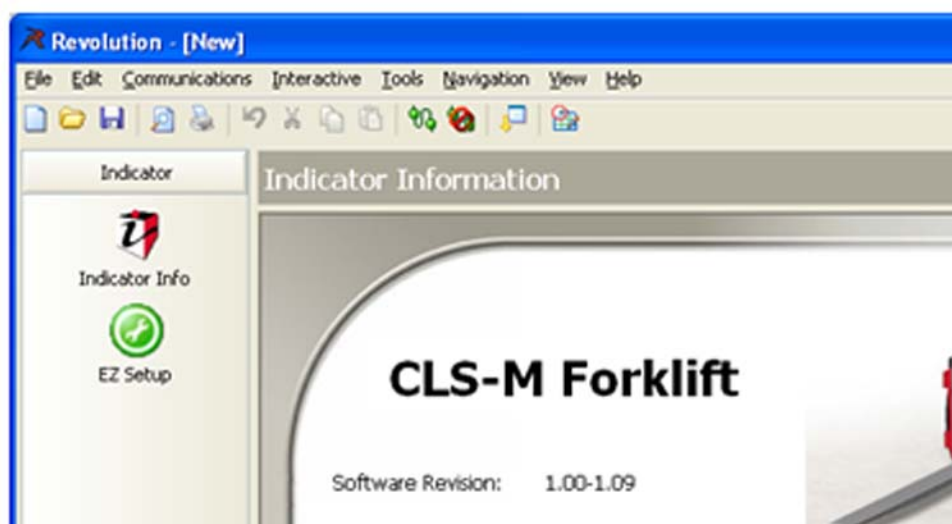

Figure 4-45. Expanded Pitch Angle Selection
5. Once selected, the main screen shown in Figure 4-45 is displayed.